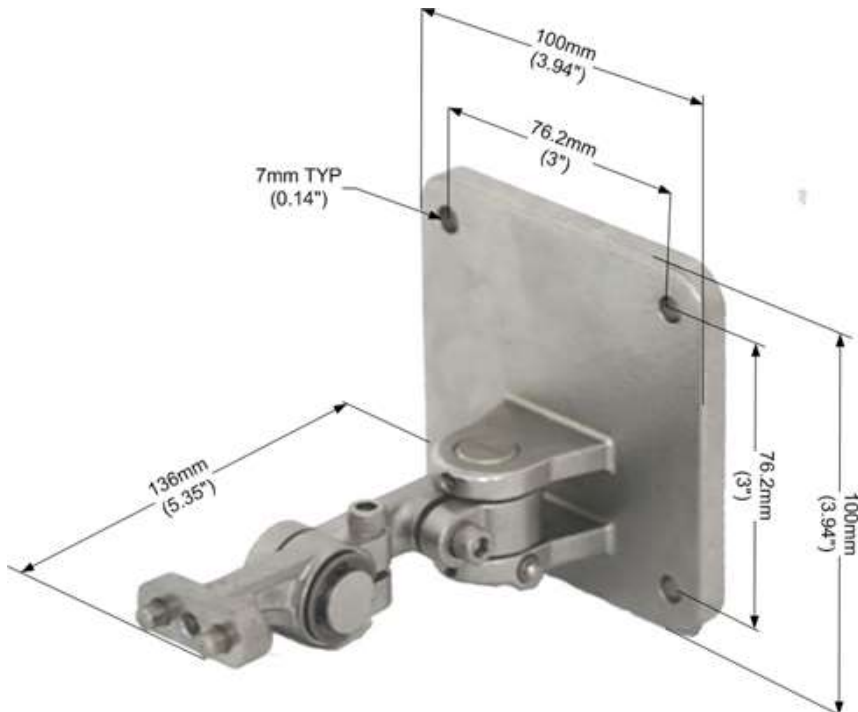

Figure 6: Tilt Mount Assembly (dimensions in millimeters and inches)
Figure 6 shows the tilt mount assembly with dimensions in both millimeters and inches.
- 8 Check the wires for secure mechanical connection and press them neatly against the terminal to prevent them from interfering while closing the back cover (Figure 6).